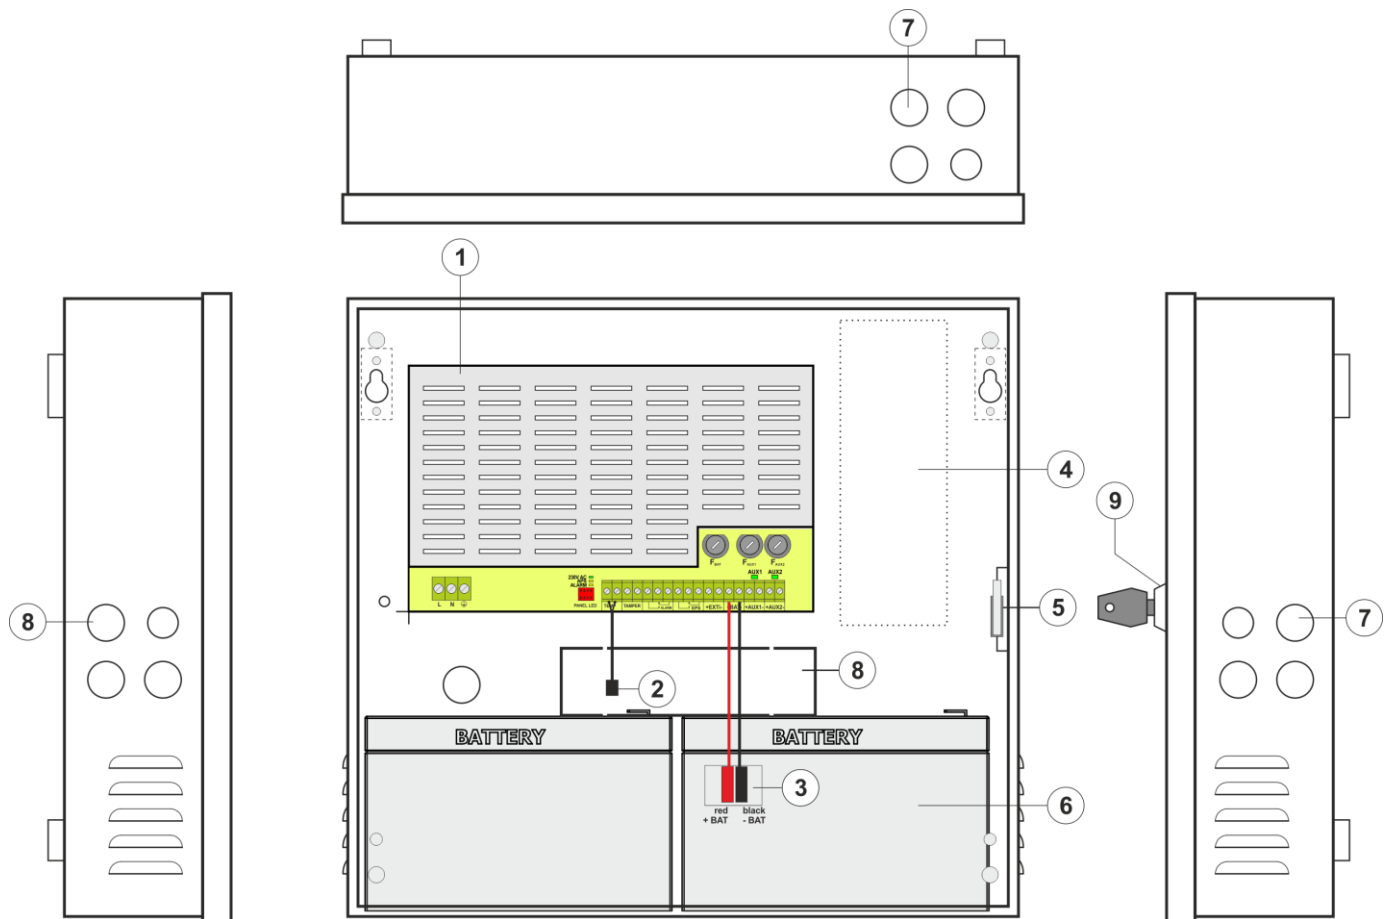

Fig. 3. View of power supply based on EN54C-2A7.
Table 2. Elements of the PSU (Fig. 3).
5. Install the batteries in a designated area of the enclosure (see Fig. 3). Connect the batteries with the PSU paying special attention to the correct polarity. Batteries must be connected in series using the special cable (included). Attach the temperature sensor to any of the batteries with mounting tape (included). Place the temperature sensor between the batteries.